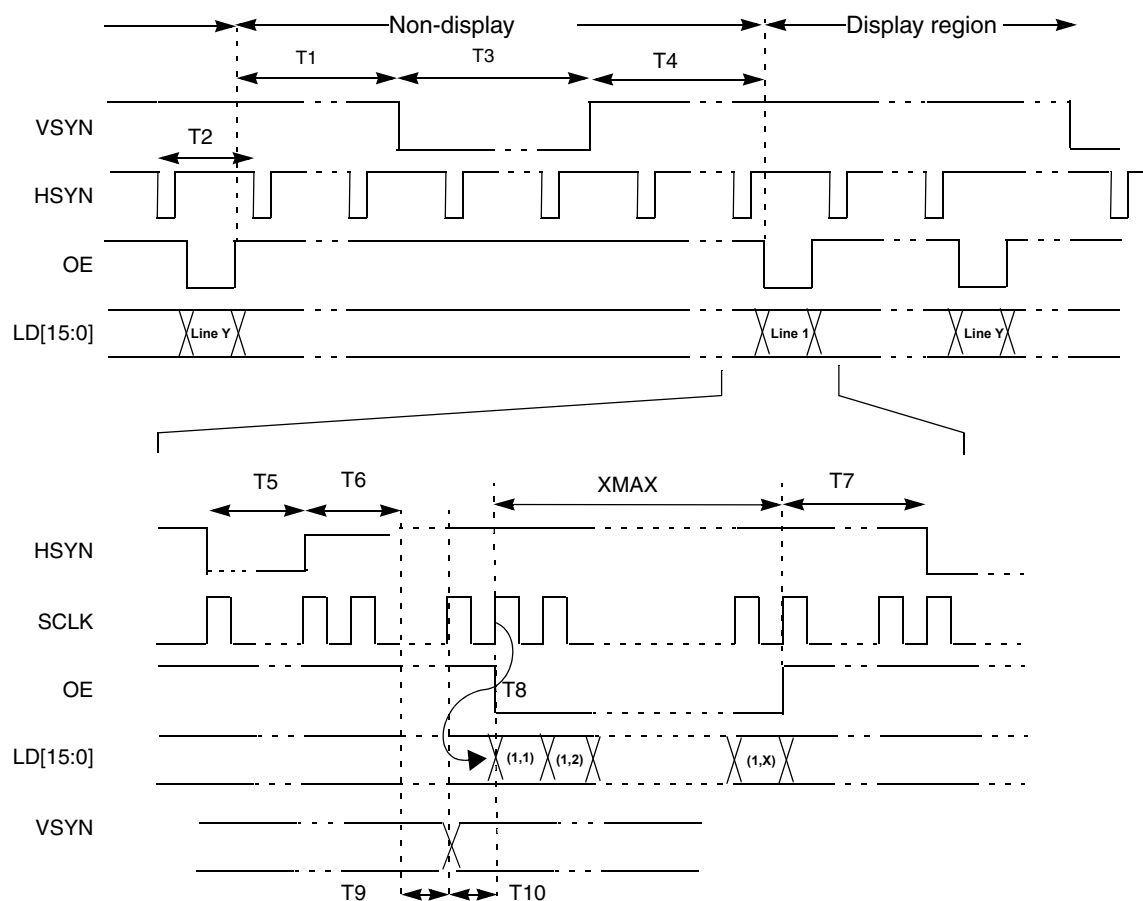

Figure 41. 4/8/16 Bit/Pixel TFT Color Mode Panel Timing
- VSYN, HSYN and OE can be programmed as active high or active low. In Figure 41, all 3 signals are active low.
- SCLK can be programmed to be deactivated during the VSYN pulse or the OE deasserted period. In Figure 41, SCLK is always active.